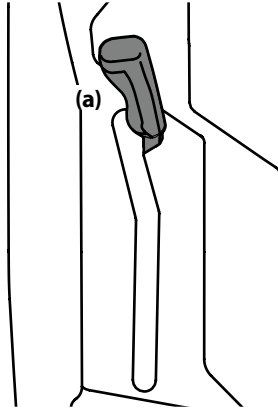

Figure 3-14
2. Push the PTO handle (a) forward and to right locking position to the engaged (ON) position. See Figure 3-14.